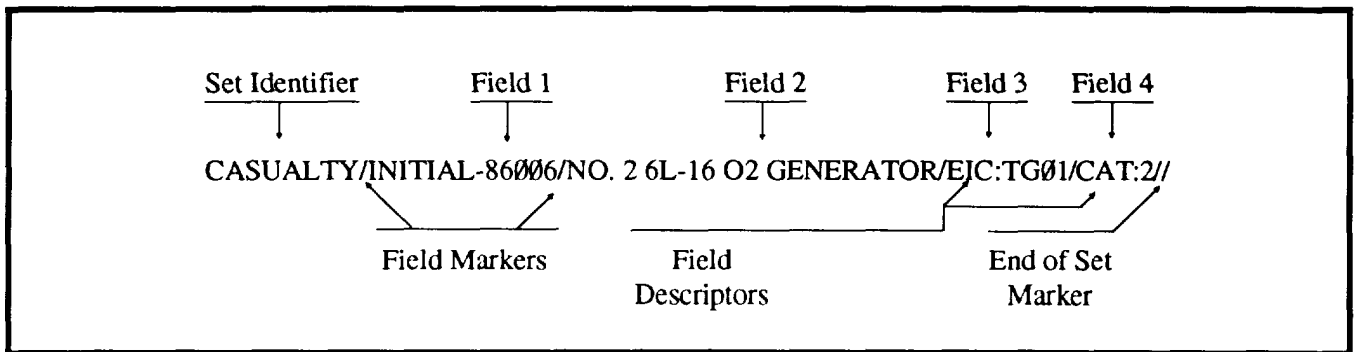

Figure 1-5.-Linear data set.
- The free text set, which consists of a set identifier followed by a single, unformatted, narrative data field. This type of set is used to explain or amplify formatted information contained in one or more of the linear or columnar data sets in a message. Figures 1-5, 1-6, and 1-7 are examples of the data sets.